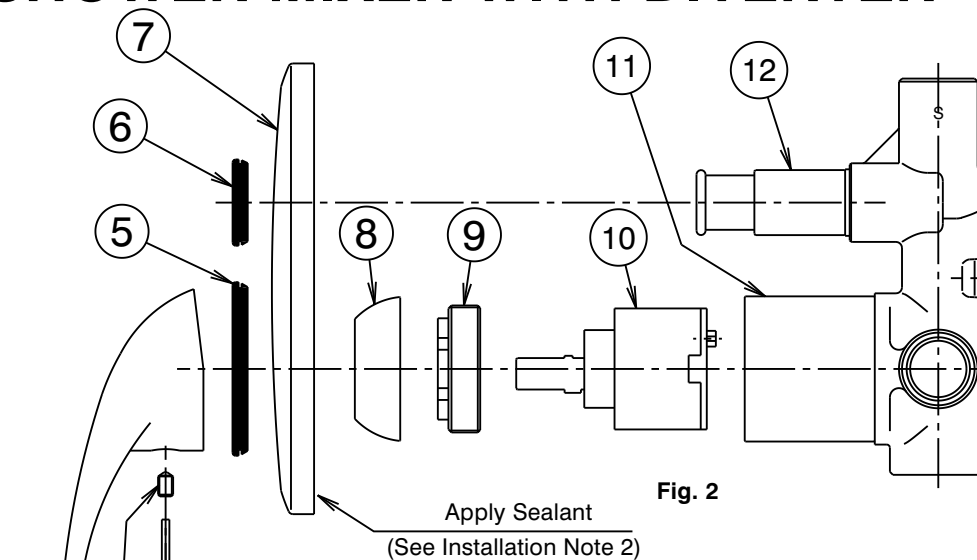

Fig. 2
- * Mixer body (11) must be installed square to wall/tile face, to ensure cover plate (7) sits flush.
- 2) Apply a suitable clear sealant to the back edge of the cover plate (7), to prevent water from entering the wall cavity, leaving an unsealed section at the bottom for drainage. (See Fig. 2)
Replacing Cartridge (Fig 2.)